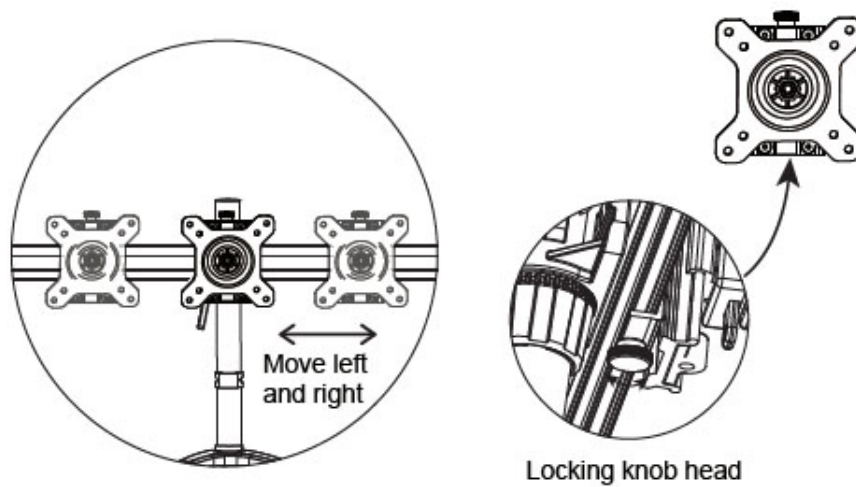

Figure 5
1. Move the displays horizontally into the desired position and secure them using the locking knob at the bottom of the VESA plate holder, see **Figure 5**.